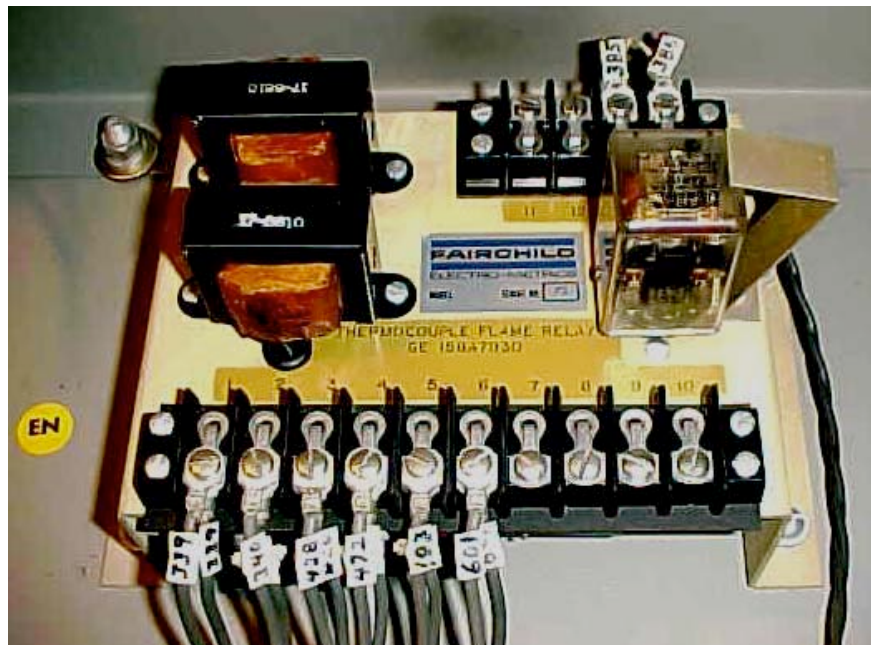

Fig. 1: Panel-mounted Fairchild Millivolt Flame Detector (GE drawing 158A7930)
GE gas turbines manufactured in the late 1960s utilized a thermocouple flame relay manufactured by *Fairchild Electro-metrics*. This was not, in reality, a flame detector. It was an exhaust heat detector that “simulated” flame. See Figure 1 below. The device took the averaged exhaust temperature (TX) to determine if flame must exist in the combustors.